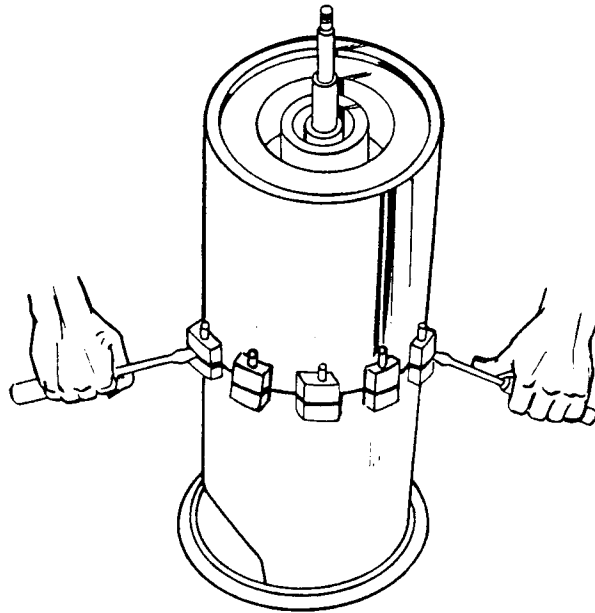

Figure 5. Separating Upper And Lower Motor Housings
Remove the deformed locknuts (10), and separate the lower motor housing (7) from the upper motor housing (17). If necessary, pry the housings apart using two screwdrivers as shown in Figure 5. When the motor housings separate, remove the motor housing O-ring (11).